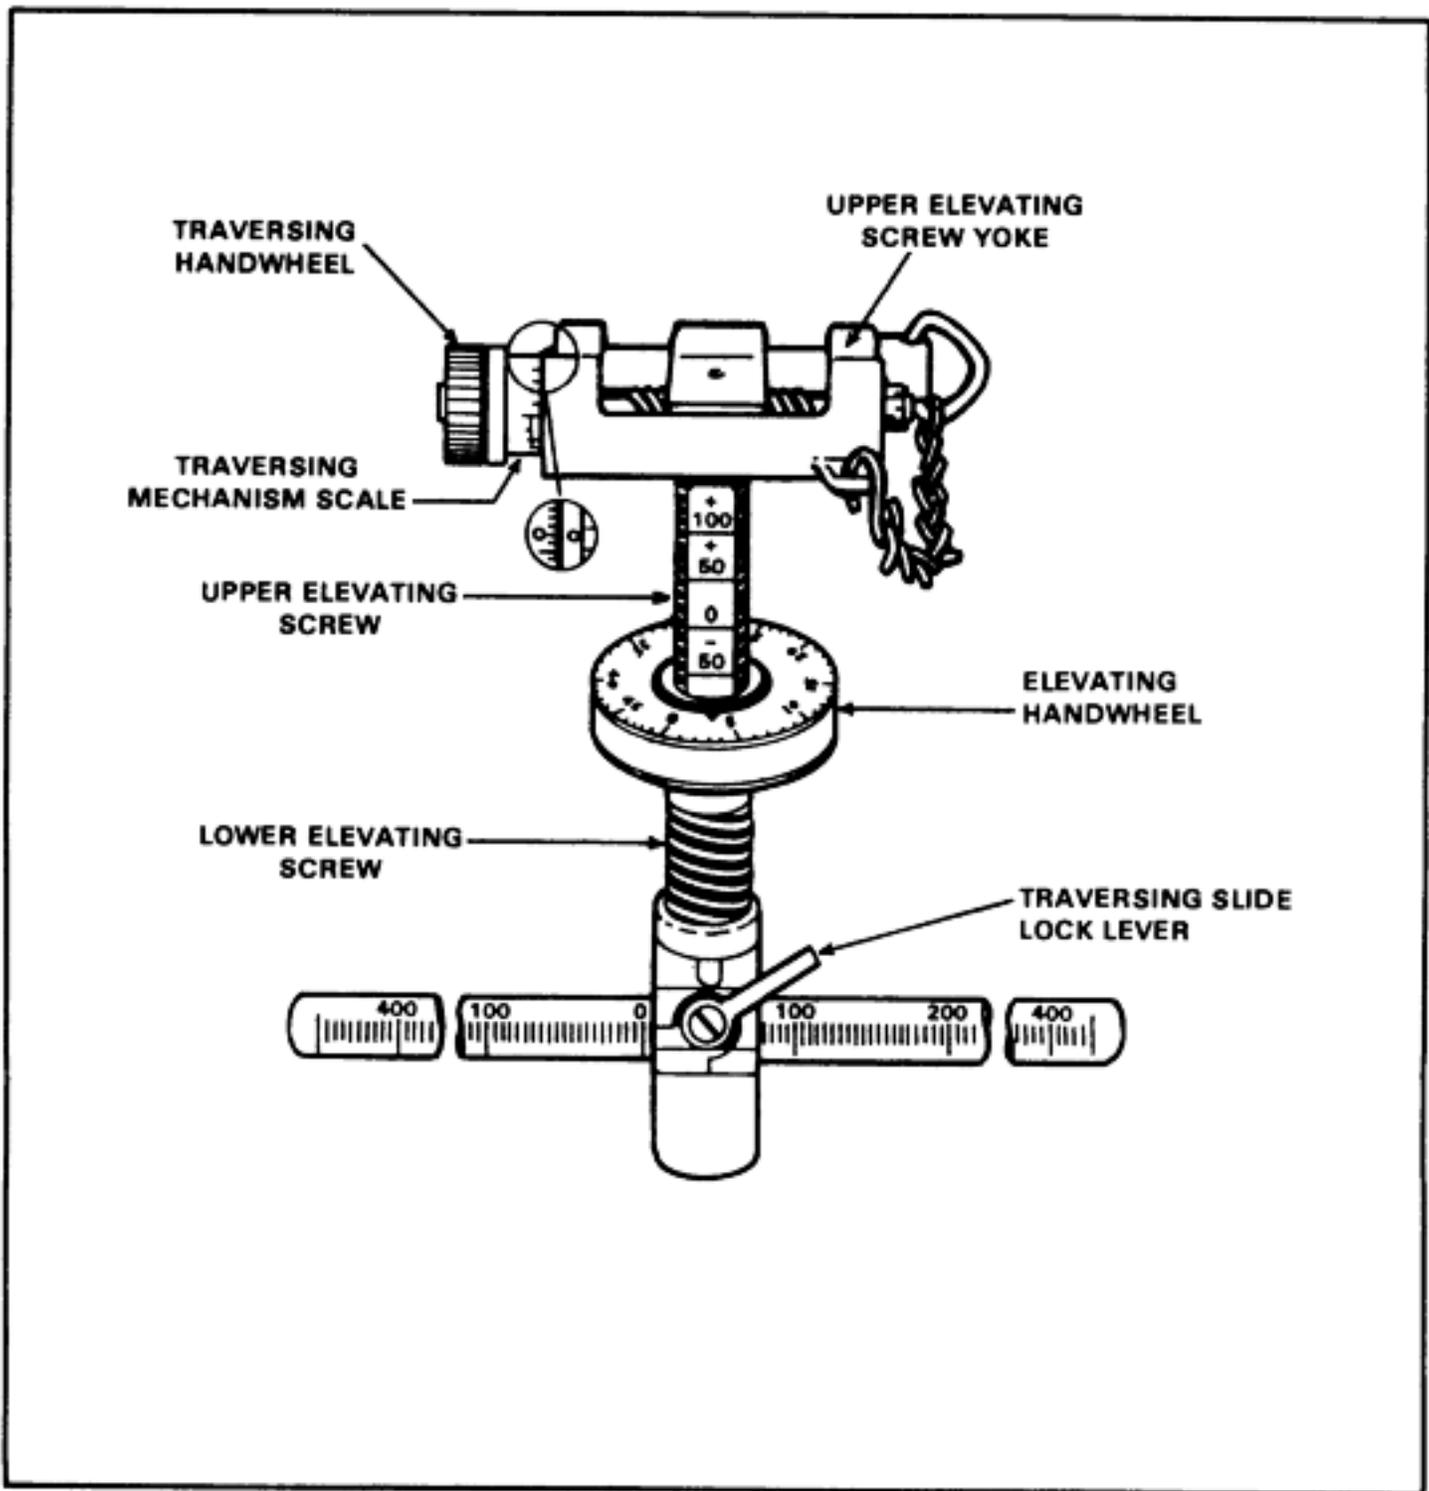

Figure 3-4. T&E mechanism.
- (3) Lock the pintle lock release cam to secure the gun cradle. Check the gun cradle, by pulling up on it slightly, to ensure that it is seated and locked.
e. Attach the T&E mechanism (Figure 3-4):